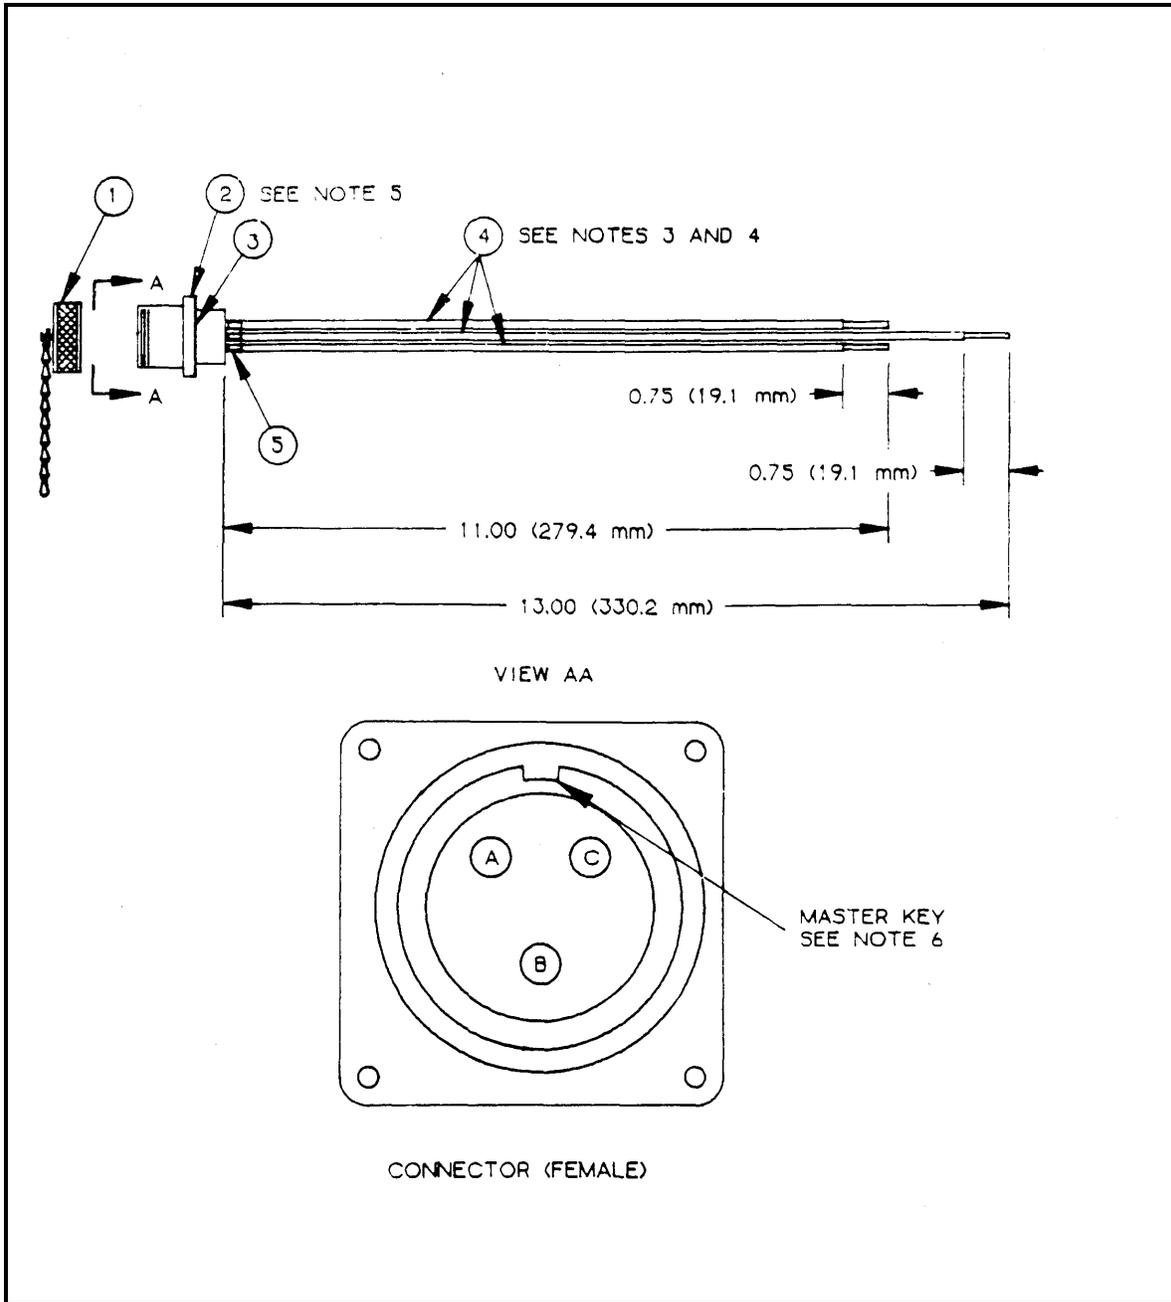

Figure F-12. Output Connector Assemblies, 20-Amp.
Component Legend for Figure F-12
c. Electrical connector (Figure F-12, Item 2) is furnished with the following: